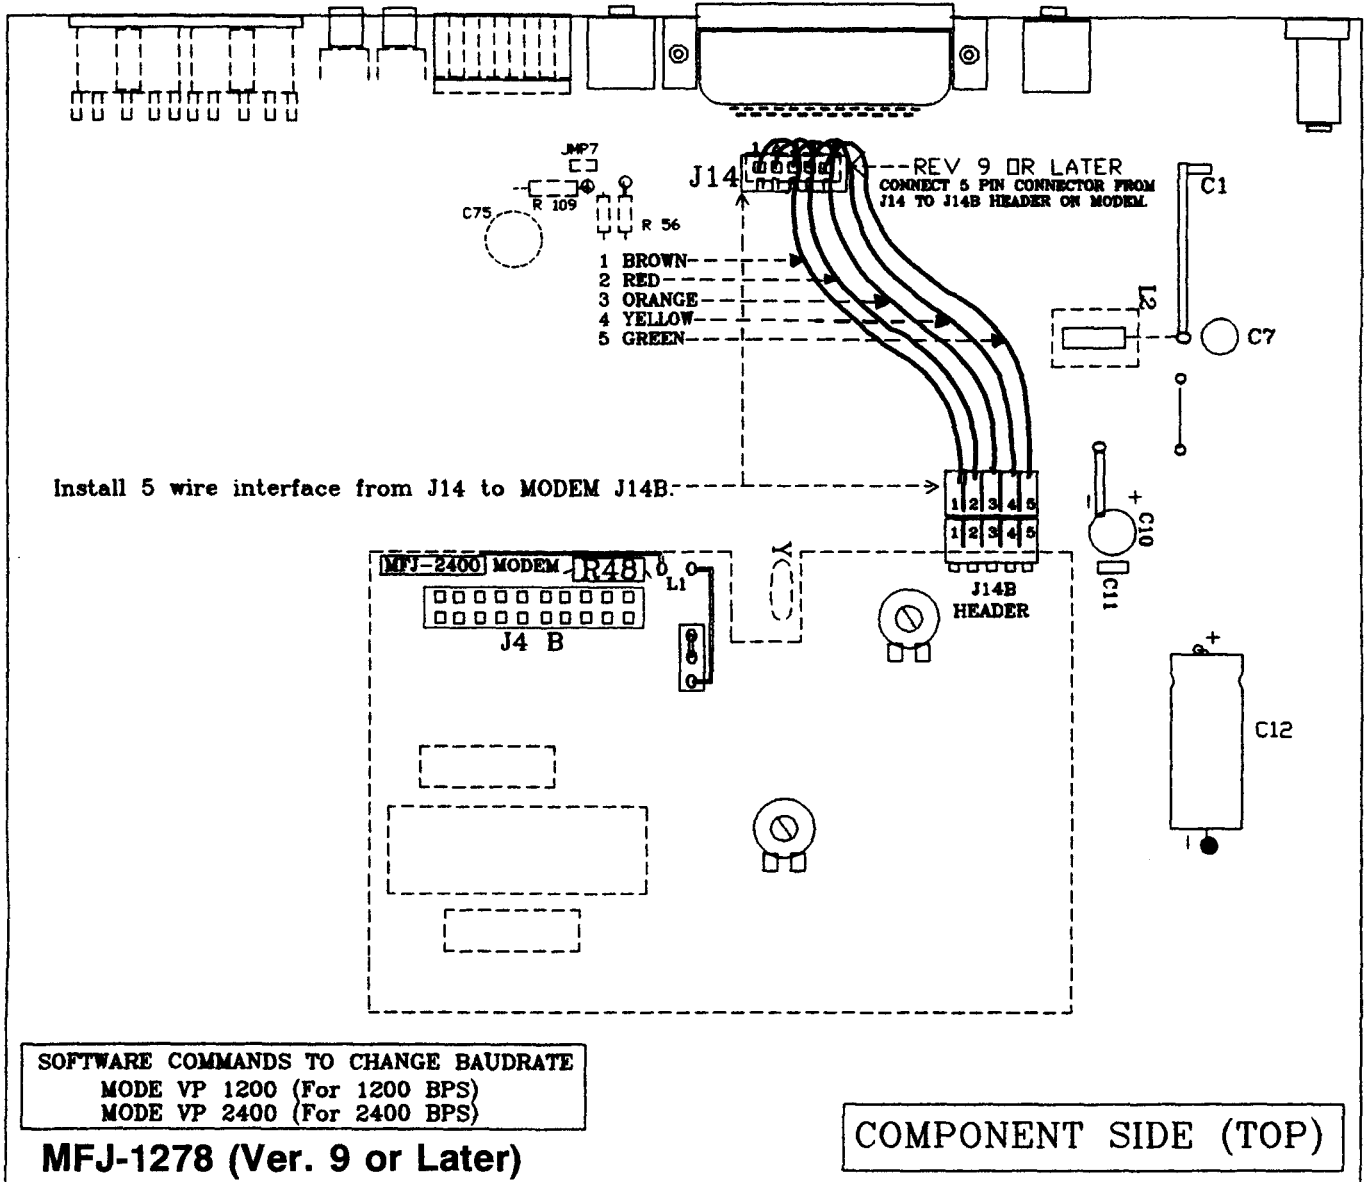

FIGURE 5
Locate the illustration which shows the MFJ-1278, Rev.9 installation (FIGURE 5). Place this drawing nearby to use with the 2400 BPS installation in the MFJ-1278.
A: Install the Modem Board: Refer to FIGURE 5
Locate the five (5) wire I/O interface fitted with a connector at each end (wires are 5 inches in length, approximately). With the face of the controller towards you, place one of the five (5) pin connectors on the five (5) pins marked J14, adjacent to C99. Install the connector on J14 so that the wires are going toward the rear of the MFJ-1278. If properly installed, the brown wire will be on the left and the green will on the the right (with the MFJ1278 pointing toward you). Loop the other end of the 5-pin jumper cable over or around J14 and bring it toward the modem board. Connect the 5-pin plug to the male 5 pin header (J14B) on the modem board. (See FIGURE 5).
A. INSTALLATION OF THE 20 PIN HEADER: Refer to FIGURE 5
Install the connector: on J14 so that the wires are going toward the rear of the MFJ-1270C, MFJ-1276, or MFJ-1278B. If properly installed, the brown wire will be on the left and the green wire will be on the right (looking from the front). Loop the other end of the 5-pin jumper cable over or around J14 and bring it toward the MFJ-2400 board. Connect the 5-pin plug to the male 5-pin header (J14B) on the modem board. (See FIGURE 5).